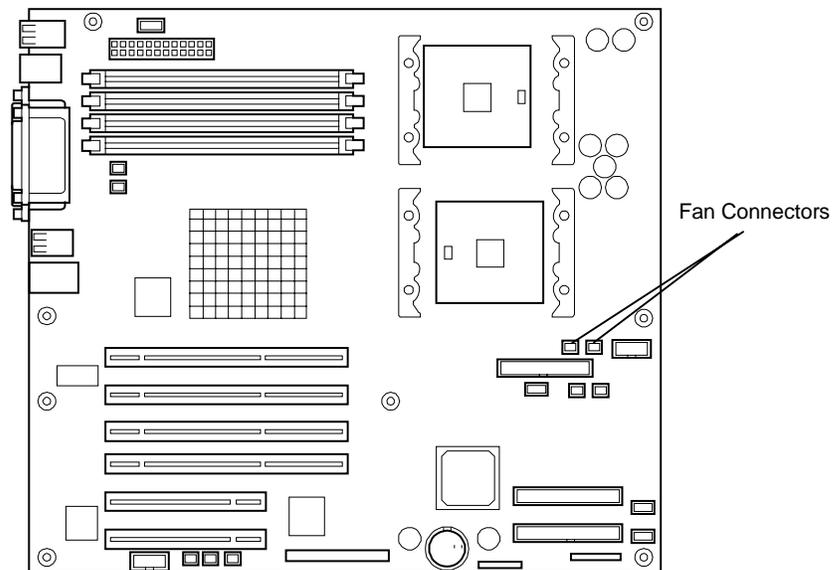

Figure 4-36. Fan cable Connector
5. Connect the cooling fan cable to the system board. See Figure 4-36.